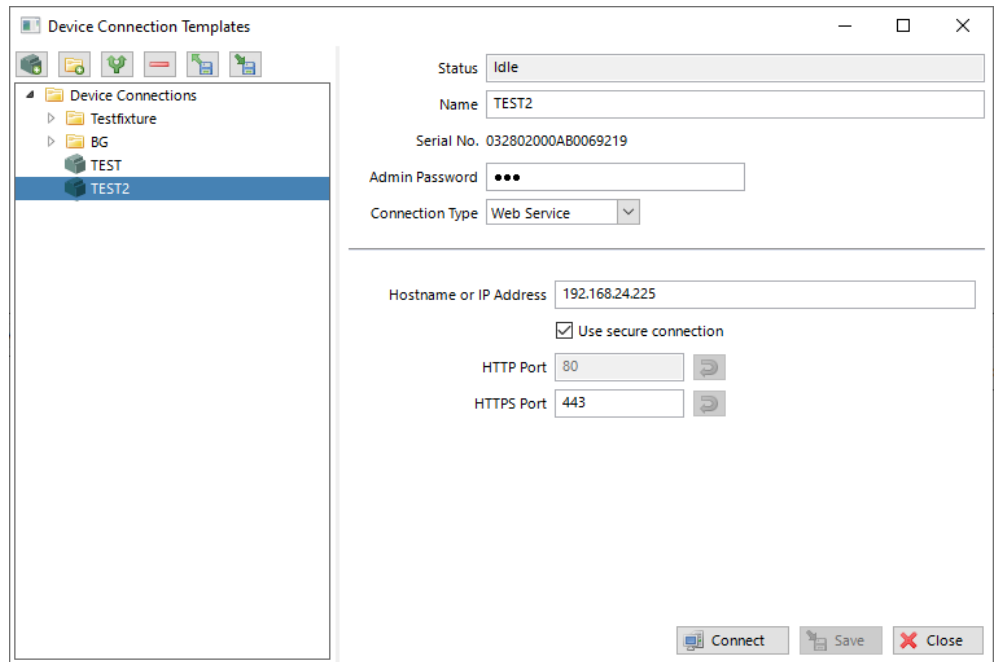

Figure 312: Device connection dialog.
2. Select the menu: **Connection → Connect to device**. This opens the device connection dialog as shown in Figure 312.